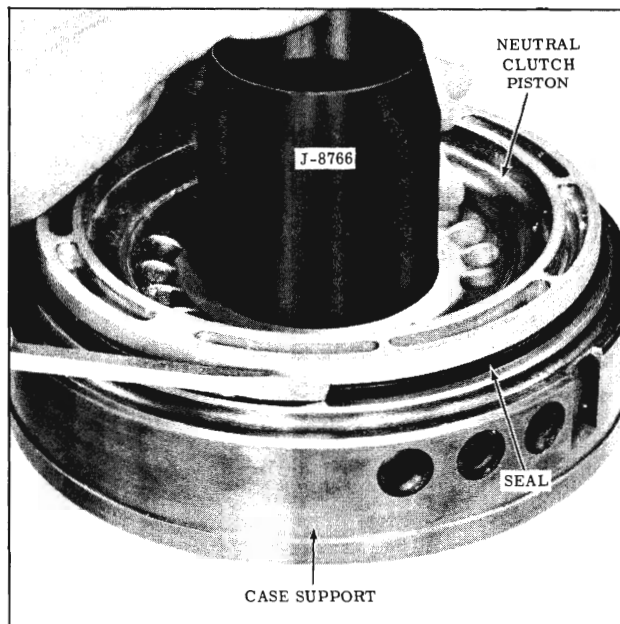

Fig. 3-62 Installing Neutral Clutch Piston
2. Install Inner Seal Protector J-8766 over neutral clutch hub. (Fig. 3-62)